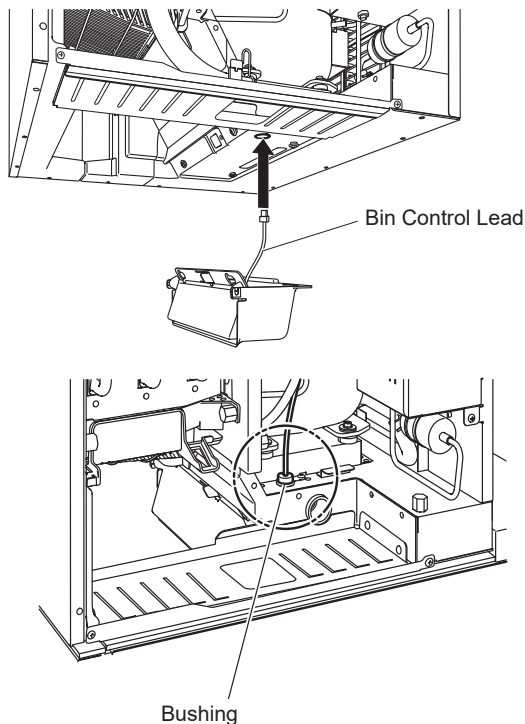

Fig. 5
- 6) Route the bin control lead through the hole in the base, then into the bushing provided. See Fig. 5.